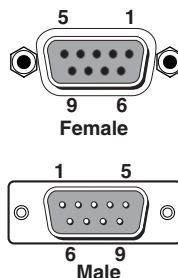

Figure 2-9 — Remote port pin assignments
- ⑩ **Remote port** — Connect a host device, such as a computer or touch panel control, to the Integration Seamless Switcher via this 9-pin D connector for serial RS-232 control (figure 2-9).